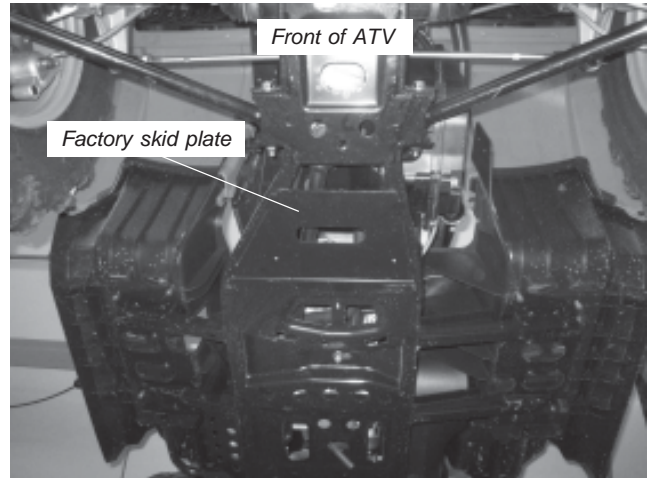
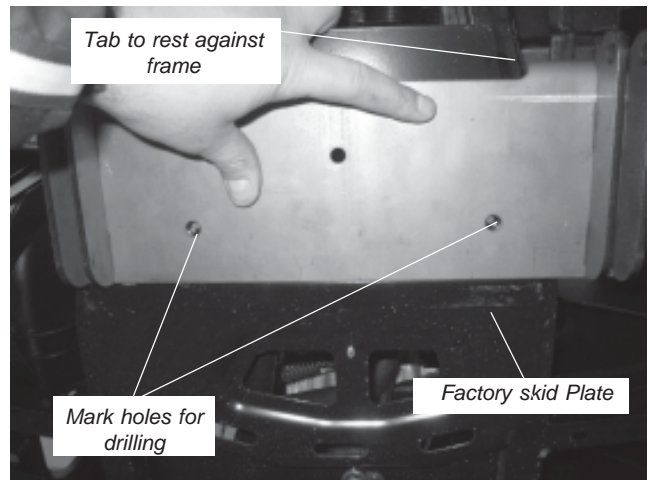

Figure 1
Figure 2
1. Locate factory skid plate under ATV see Figure 1.
2. Place plow mounting bracket (A1) so that rear of bracket rests on "lip" of factory skid plate, see Figure 1 and Figure 2.
Next, slide plow mounting plate (A1) to the left so that the right tab rests against frame, see Figure 2. Mark holes for drilling, See Figure 2.